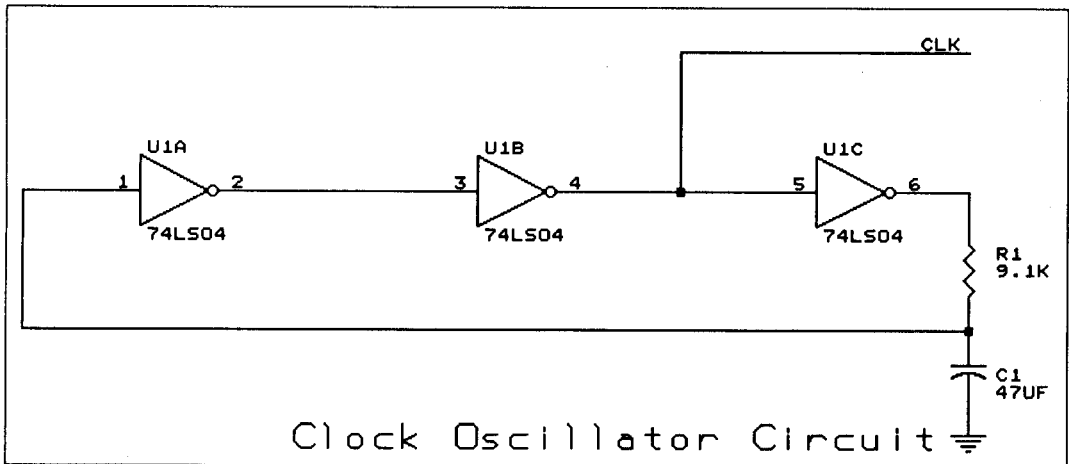

Figure 3-1. Clock oscillator circuit schematic.
Figure 3-1 shows the schematic diagram of the clock oscillator circuit you create in this chapter. Refer to this figure for placement and orientation information while capturing the clock oscillator schematic.
Compare your worksheet with figure 3-1 at the beginning of this chapter. Your worksheet should contain the parts shown in figure 3-1, but not the wires. Most of the remaining tasks in this chapter establish signal connections between the parts you placed on the worksheet.
6. To complete the wiring, draw wires between the remaining parts as shown in figure 3-1.
The connection between the capacitor and the input of the leftmost inverter requires a junction. No junction is necessary for the connection between the resistor and the capacitor because they connect end to end. A junction is also required where the wire labeled CLK (figure 3-1) connects, between the middle and right-hand inverters.